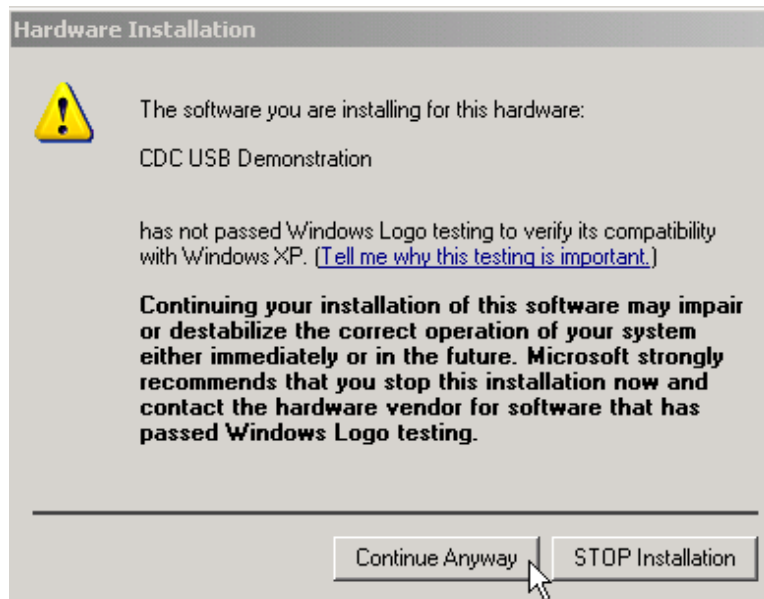

Figure 7 GUI Installation Step 6
7. Before the end of the installation you will see the window shown in Figure 7. Press "Continue Anyway" button to finish the USB driver installation.